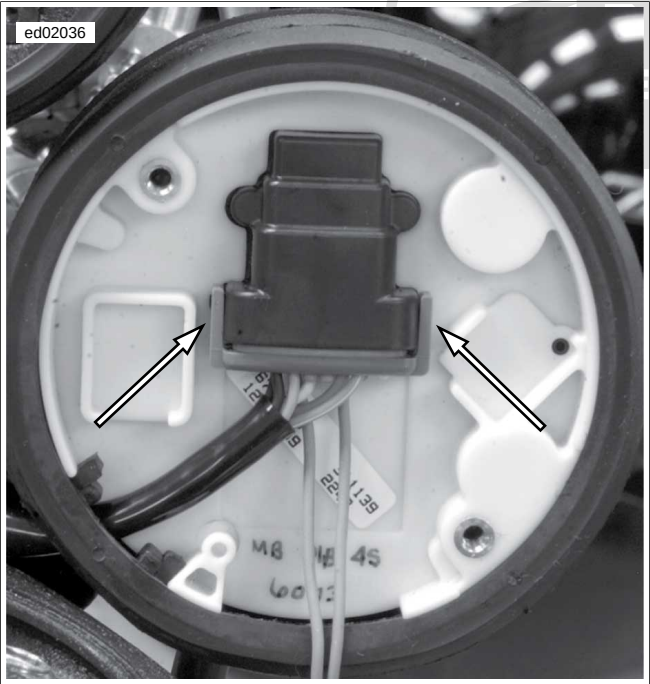

Figure 2-6. Speedometer Connector [39]
1. See Figure 2-6. Release the external latches and remove connector [39B].